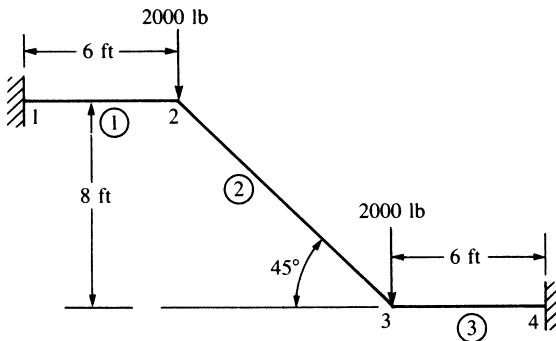

Figure P5-3
- 5.3 For the rigid stairway frame shown in Figure P5-3, determine (1) the displacements at node 2, (2) the support reactions, and (3) the local nodal forces acting on each element. Draw the bending moment diagram for the whole frame. Remember that the angle between elements 1 and 2 is preserved as deformation takes place; similarly for the angle between elements 2 and 3. Furthermore, owing to symmetry,  $d_{2x} = -d_{3x}$ ,  $d_{2y} = d_{3y}$ , and  $\phi_2 = -\phi_3$ . What size A36 steel channel section would be needed to keep the allowable bending stress less than two-thirds of the yield stress? (For A36 steel, the yield stress is 36,000 psi.)